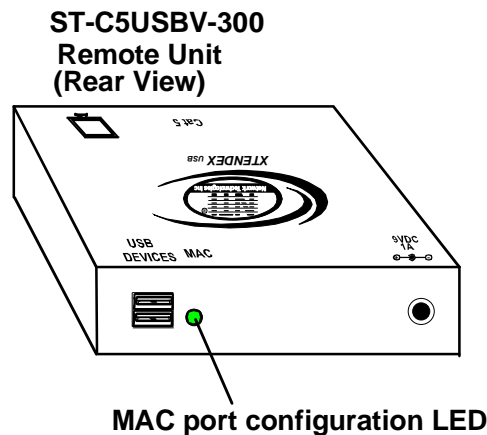

Figure 10- MAC LED
2. If a MAC CPU is connected, press the <M> key. The keyboard LEDs will momentarily flash and the "MAC" LED on the Remote Unit will illuminate to indicate MAC Mode is ON. (See Fig. 10)